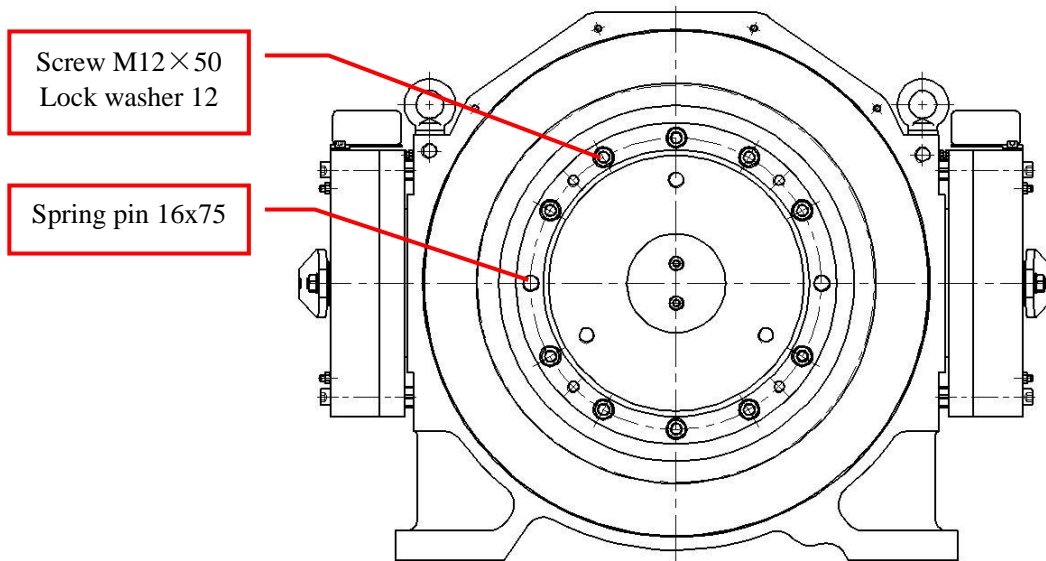

Figure 35: Remove Screws M12
3. Remove the screws M12×50 and lock washers 12 with inner hexagon wrench (10mm). See Figure 35.